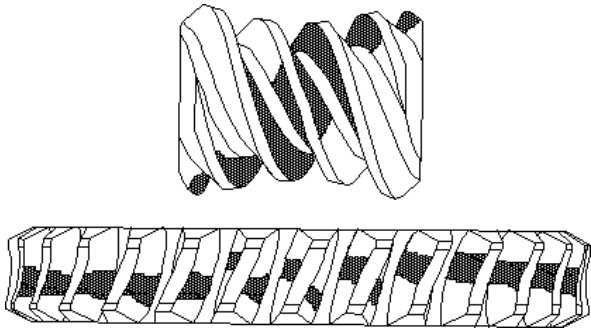
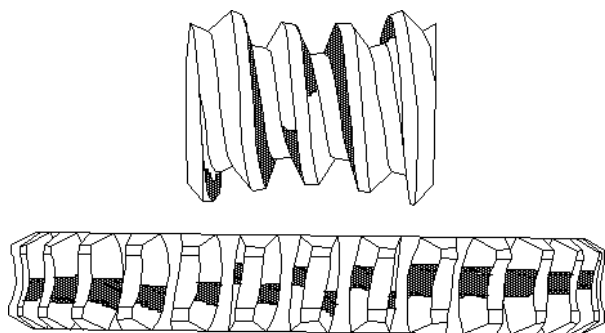

figure 9
figure 13
4. The gearset must be positioned properly at assembly to obtain the desired contact between the worm threads and gear teeth. If the gearset is properly aligned, contact will be approximately as shown by the shaded portions in figures 9 or 13, depending on ratio. The correct pattern is symmetrical with respect to the centerline of the worm and the gear but will vary with ratio. The correct pattern for ratios 5:1 to 25:1 are shown in figures 9 and 10, and for ratios 30:1 to 70:1 see figures 13 and 14.